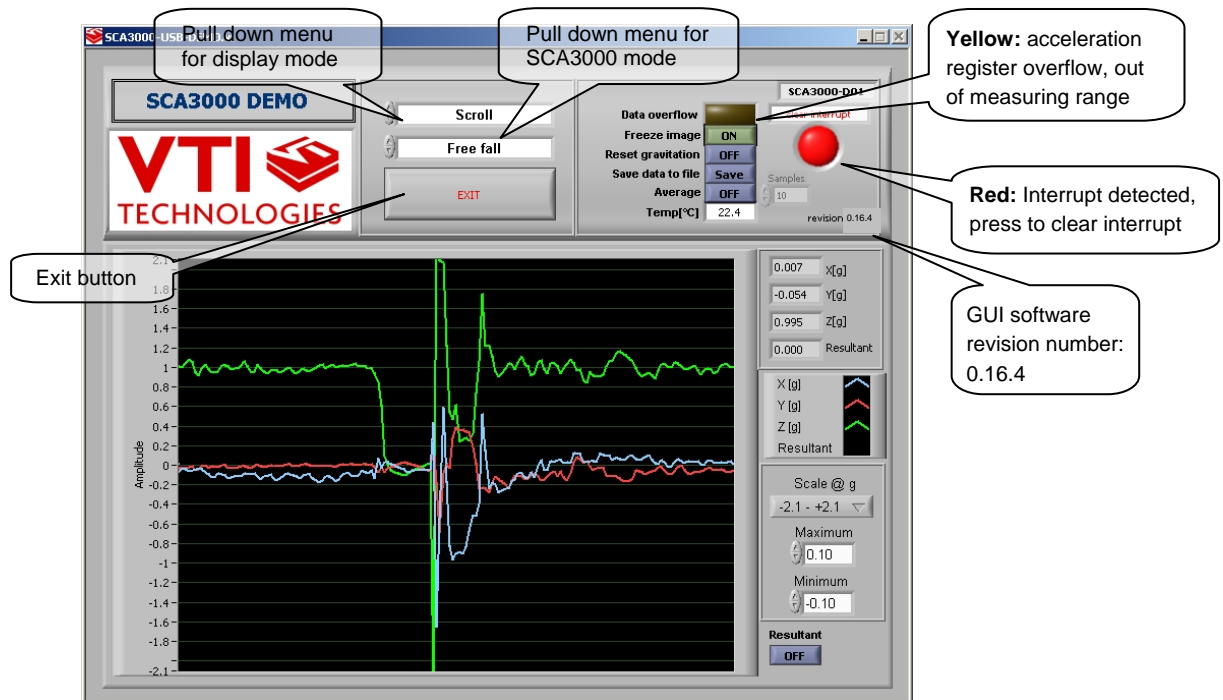

Figure 2 SCA3000 demo Graphical User Interface
Screen capture of the GUI is presented in Figure 2.
The interrupt detected due free fall or motion is indicated by led indicator and sound. Once interrupt is detected, the interrupt has to be cleared by user by pressing the led (Figure 2).
SCA3000 demo GUI software can be reinitialised by selecting the “Reset demo” display from pull down menu, see Figure 2.
- The wait time in data transfer can be increased on “SETUP” display (GUI software pulldown menu, see Figure 2).